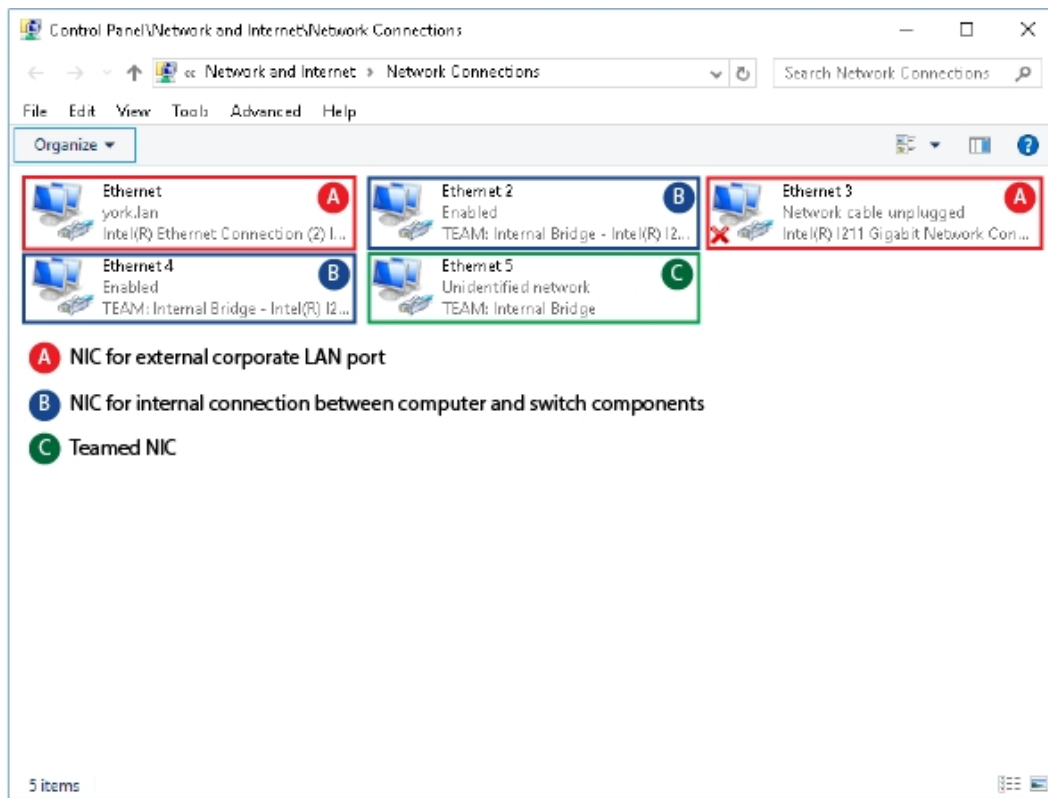

Figure 1: The Network Connections Control Panel showing Ethernet 5 as the teamed NIC. (Used with permission from Microsoft.)
- Two NICs for the external corporate LAN ports (see connections labeled "Ethernet" and "Ethernet 3" in Figure 1 below).
- Two internal NICs that connect the built-in computer to the internal switch (see connections labeled "Ethernet 2" and "Ethernet 4" in Figure 1 below).
- A teamed (or virtual) NIC that logically represents the two internal NICs (see connection labeled "Ethernet 5" in Figure 1 below). The teamed NIC, labeled "TEAM: Internal Bridge", is dedicated to handling the traffic between the internal switch and the built-in computer to maintain the highest possible network throughput of recorded video to storage.